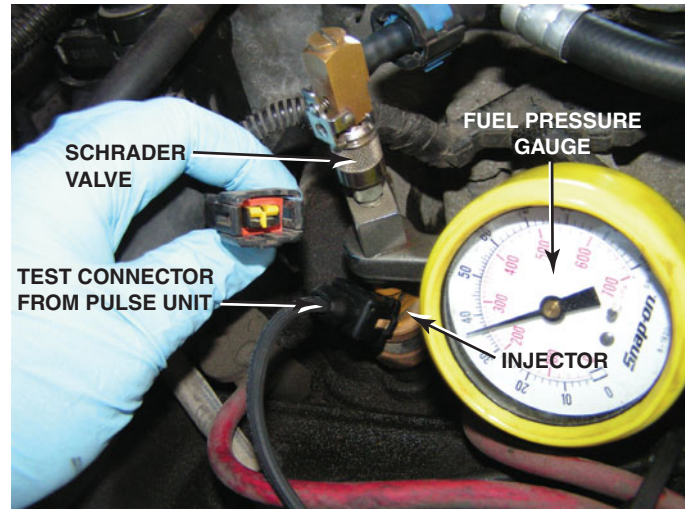

FIGURE 37-15 After connecting a pressure gauge, unplug the electrical connector from an injector and attach the test lead from the pulse unit to the injector.
- STEP 5** Note and record the new static rail pressure after the injector has been pulsed. ● **SEE FIGURE 37-15.**